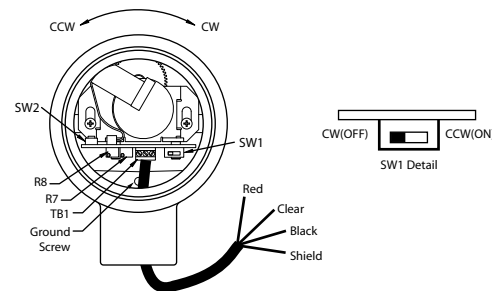

Figure 4:
- See Figure 4 below for related information.
This provides access to the edge of the SG1000F's printed circuit board, namely the direction switch SW1 (the slide switch), and the calibration switch SW2 (the push-button switch). See Figure 4 for locations of these switches.
- If the encoder shaft turns in the CW direction as the process shaft is moved from the fully-closed to the fully-open position, then set SW1 to the OFF position (i.e., toward the center of the PC board). See Figure 4.
- If the encoder shaft turns in the CCW direction as the process shaft is moved from the fully-closed to the fully-open position, then set SW1 to the ON position (i.e., toward the edge of the PC board). See Figure 4.
- D) Assuming conditions (A), (B), and (C) are proper, and your SG1000F still seems to behave improperly, then try re-calibrating again, paying close attention to the eight calibration steps.
- 2) If you have gone through troubleshooting hints (1A), (1B), (1C), and (1D), and if your SG1000F seems to otherwise respond properly, from fully-closed to fully-open, with the only exception being that strange values other than 4 mA and 20 mA are output for the fully-closed/fully-open positions (e.g., 3 mA at one-end and 23 mA at the other-end), then possibly the R7 and R8 factory potentiometer settings have been tampered with. See Figure 4 for location of these pots.